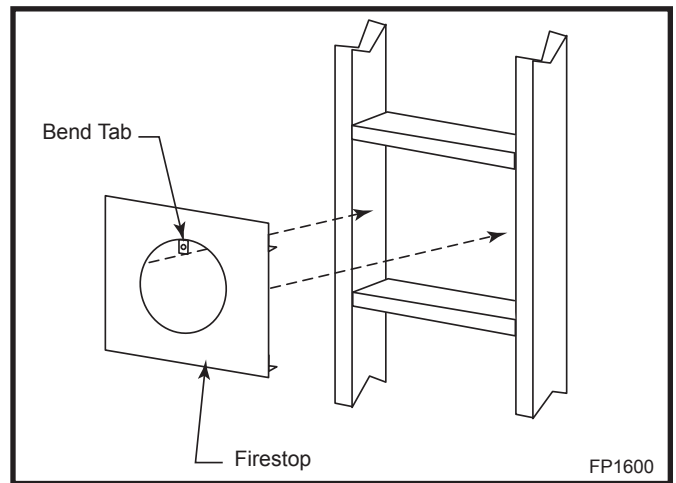

Fig. 14 Install firestop.
Install interior firestop as shown in Figure 14.
Bend tab on outer casing up and insert collar onto fireplace collars. (Fig. 14)
4. Bend the tab on the back of the fireplace up. (Fig. 14)